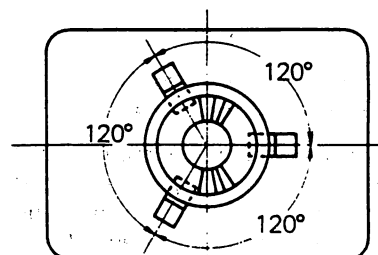

Figure 5-20
- b. Taking care not to move the deflection yoke, insert three wedges at an angle of approximately 120° at a strength of 6 to 8 kg-cm as shown in Figure 5-20.